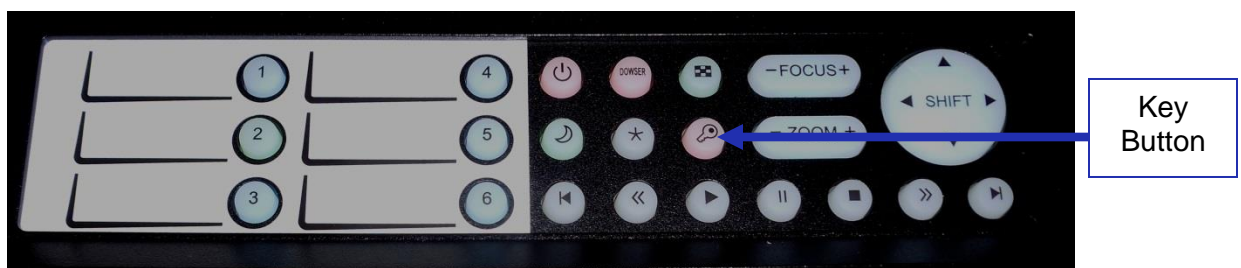

Figure 61: Red Key Button
- To begin the marriage process, push the Key button. It should be red to indicate that the marriage has not been completed (Figure 61).